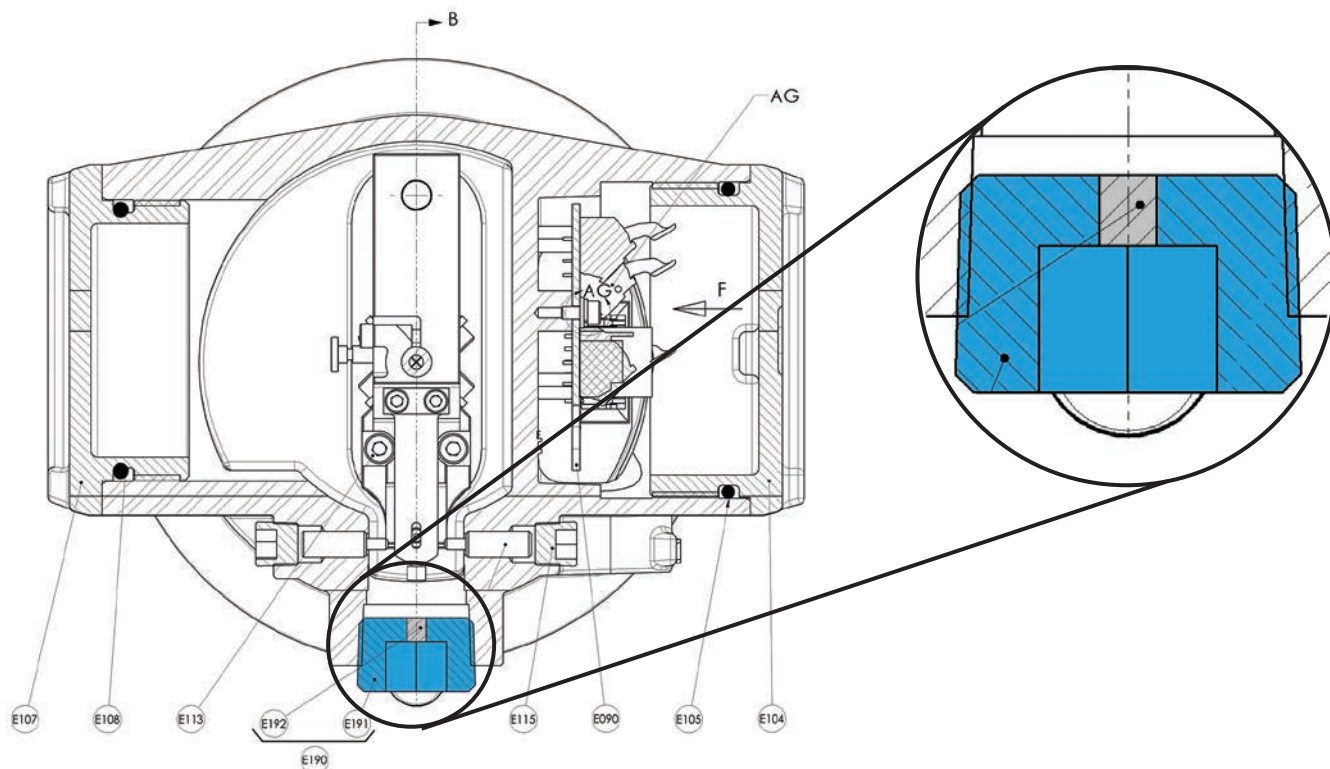

Figure 12 – 12400 DLT Cross Sectional Back View of case
The mechanism compartment (Figures 12 & 13) on the back of the case has an opening on the right side (operator facing instrument), which is closed by a threaded cover (107) and a gasket (108). A second opening at the bottom, closed by a special 3/4" NPT safety blue plug (190), allows access to the mechanical flexure (59), which is part of the beam.
- Pay particular attention to the blue plug (190) which includes a compressible gasket (192). This device is a safety relief device to prevent any over pressure inside the housing due to a torque tube leakage and to close the housing against dust and water ingress.
- Take care to put the blue plug (190) in a safe and clean area when removed for maintenance or calibration operations.
- Pay attention to screw it on the 12400 body at the right depth of engagement as show in Figure 12, that means at least 3 turns after the engagement inside the conduit.
- For some process using dangerous fluid or gas, a tubing can be put in place of the plug (190) to prevent any leakage from the torque tube outside. This system must NOT increase the pressure inside the 12400 body above 0.5 bar.